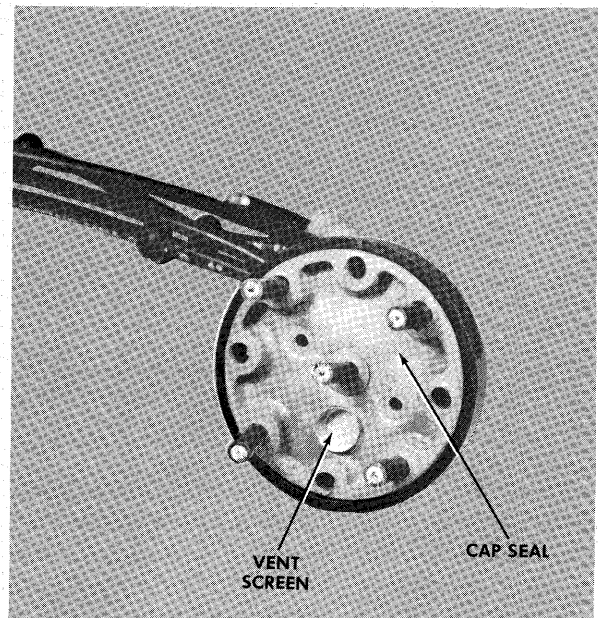

Figure 1 — Installing Lead Wires Through Seal
- A. Insert lead wires in through cap cover and through seal being certain to align screw holes (cover to cap) and vent hole in cover with vent screen in seal. Allow at least one (1) inch of lead wire to extend through cap seal as shown in figure 1.